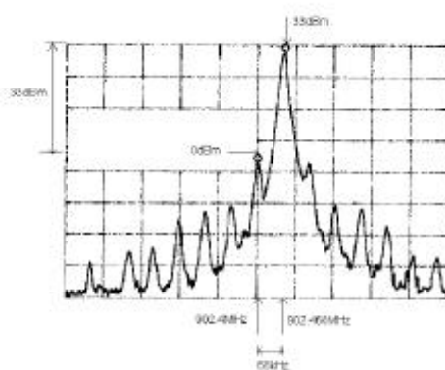

Figure 28: Image leak ratio
2. (Figure 28) Using the spectrum analyser measure the image leak ratio. Image leak ratio is the measured ratio of peak power and the power at 135kHz below peak frequency.